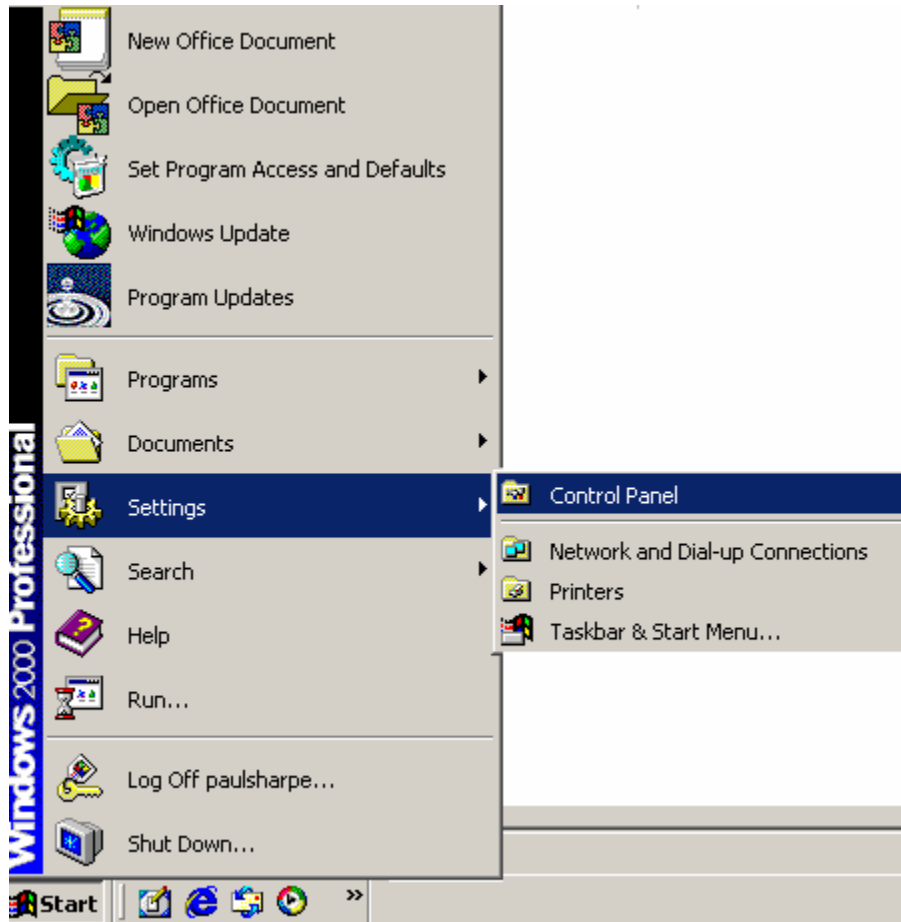

Figure 7-36: Access Windows Control Panel
Step 1: Open **Windows Control Panel** (Figure 7-36).